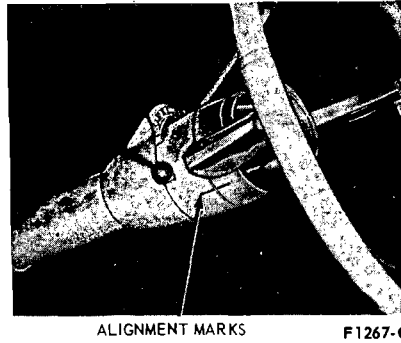

FIG. 5—Straight Ahead Position Marks—Typical
1. Drive the vehicle in a straight line far enough to establish the straight-ahead position of the front wheels, and mark the steering wheel hub and the steering column collar (Fig. 5). **Do not adjust the steering wheel spoke position at this time.** If the front wheels are turned at any time during the inspection, align the marks to bring the wheels back to the straight-ahead position.